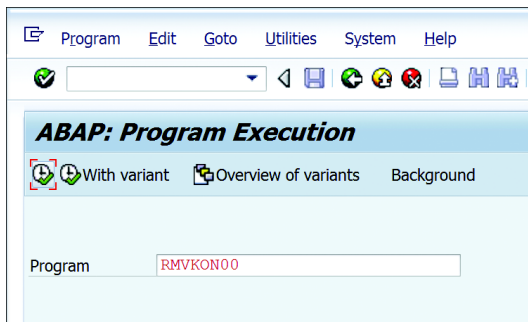

Figure 14.16 Transaction SA38 Initial Screen
1. Open Transaction SA38, input the program name, and click the BACKGROUND button in the application toolbar (see Figure 14.16).